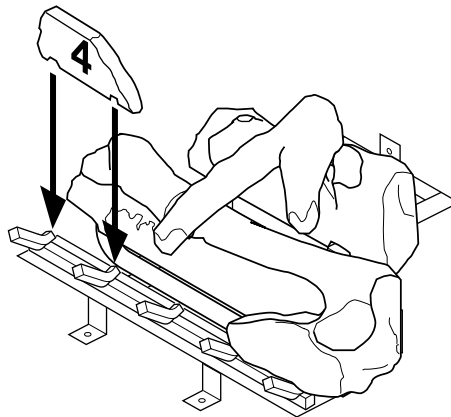

Figure 46 - Installing Log No. 4
4. Place log #4 (small log) onto the front left part of the grate making sure the notches fits over the prong of the grate. See Figure 46.